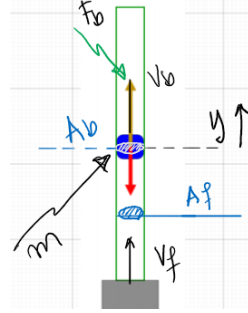

Figure 1: Air levitation system.
1. **Exercise 1 (10pts).** Consider the air-levitation system shown in Figure 1. This system has a fan in the bottom, which "injects" air in-flux that acts on a air-balloon of mass m in a closed-cylinder.
To simplify the modeling (control-oriented), assume that the motion of the balloon occurs only in the y direction as shown in Figure 1. Since the cylinder is closed, the air flux inside is constant. Then, the following *volumetric* flow rate relation holds
- (a) (2pts) Find a control-oriented mathematical model for the system in Figure 1.
SOLUTION: From the free body diagram in Figure 1 and Newton's second law, we have